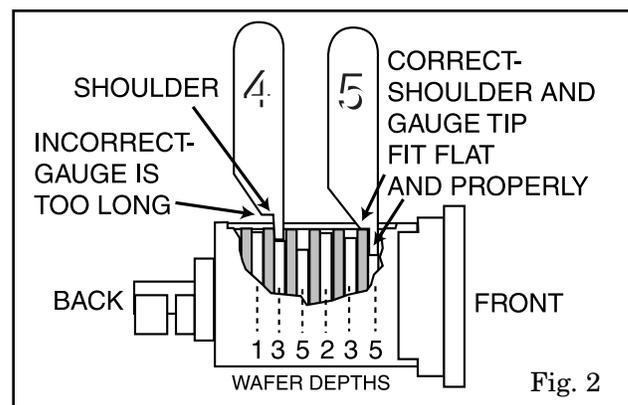

Fig. 2
5. If you will notice below (Fig. 2), the the gauges are used with the shoulder side toward the back of the plug. They are used in this manner for the first five spaces only. For the *sixth* space, (closest to the back of the plug) the gauge should be used *with the shoulder facing the front*.